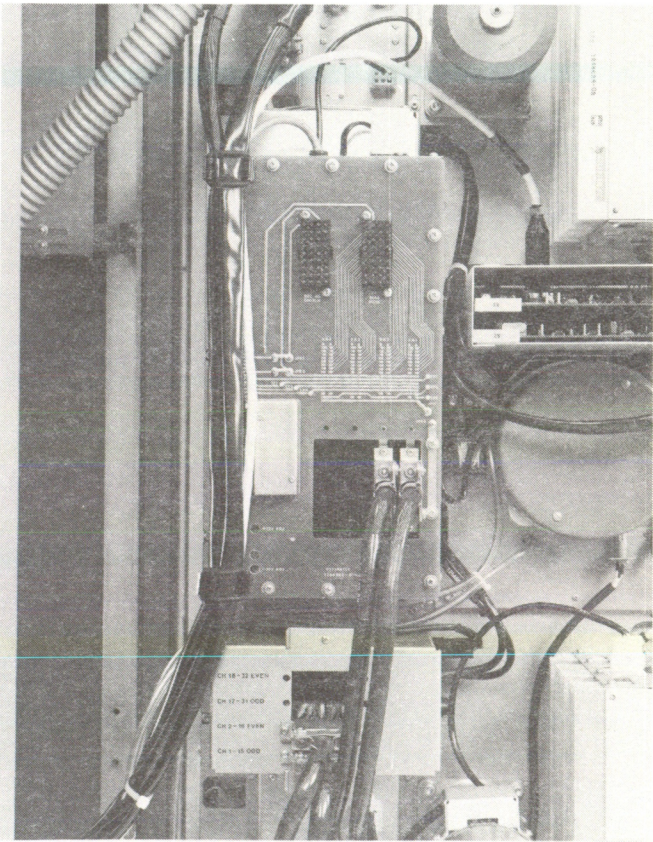

Figure 8-3. Preamplifier No. 2 Housing - Rear View
- b. Remove the rear cover plate from the preamplifier #2 housing (Remove two 4-40 screws). See Figure 8-3.